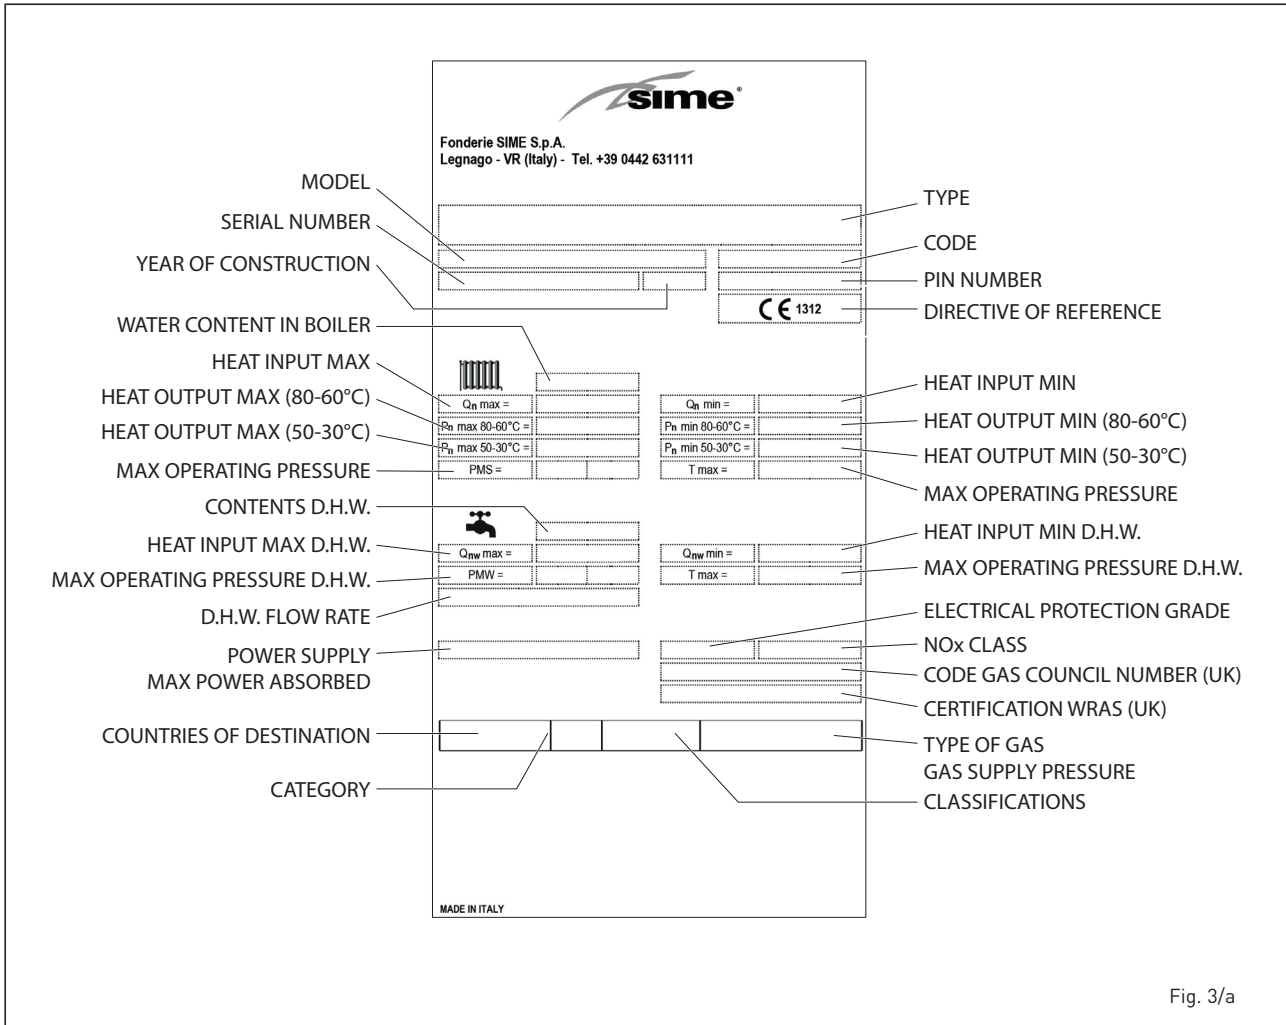

Fig. 3/a
1.5 LOAD LOSS IN HYDRAULIC SEPARATOR SUPPLIED UPON REQUEST IN KITS CODE 8101550 (fig. 3)
1.6 TECHNICAL DATA PLATE (fig. 3/a)